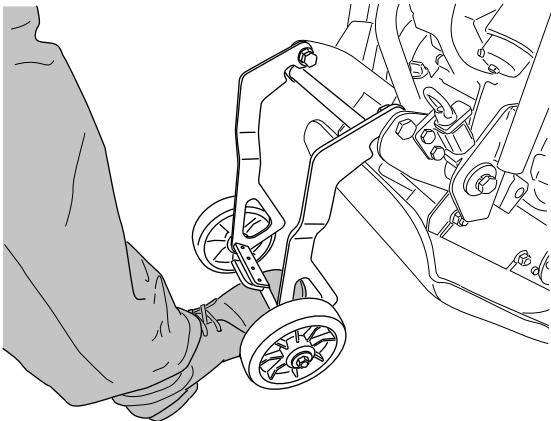

Fig. 9
2. Turn the axle rearward, and let the compaction board touch the ground. (Fig. 9)